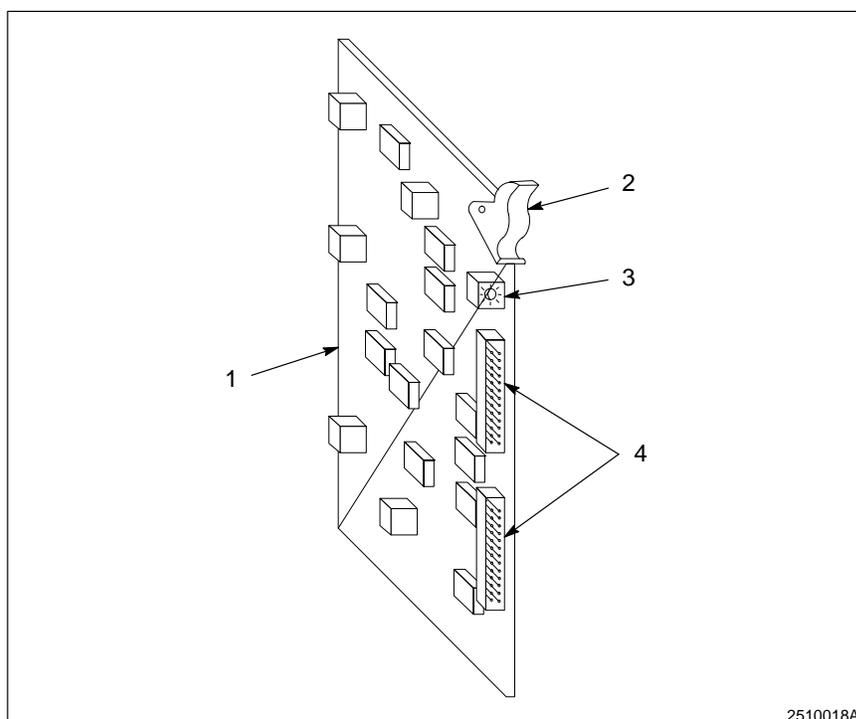

Fig. 6-2 Rotary Switch Setting (Board Address)
2. Open the enclosure door and remove the card rack (6).
3. See Figure 6-2. Mark and disconnect the cables from their connections (4). Mark and disconnect any other cable plugs from the circuit board (1).
4. Push the board ejector (2) to dislodge the circuit board (1). Slide the device from the slot in the card rack.
5. Note the position of the rotary switch (3). Set the switch on the new circuit board (1) to the same position.